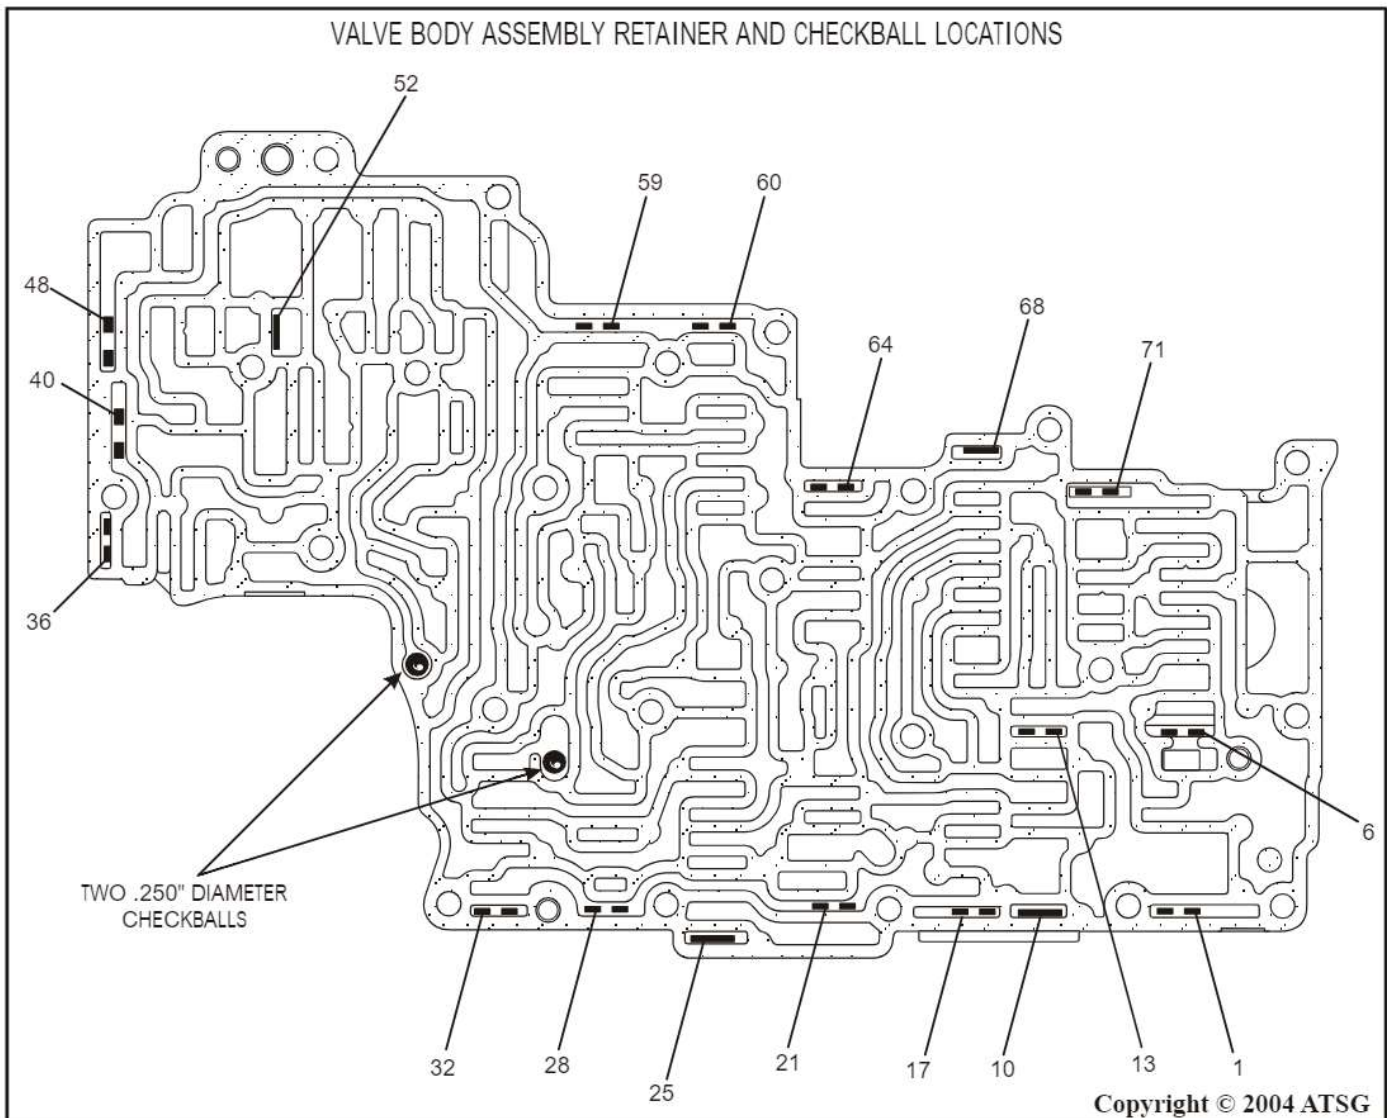

Figure 110
6. Refer to Figure 110 for the **exact** placement of retaining pins and clips, as some of them are installed inboard in the worm tracks of the valve body casting.
8. Ensure that the valve train retainers have been installed in their proper locations, as shown in Figure 110.
- Note:** The numbers in Figure 110 refer to the illustration numbers in the legend on Page 65.
10. Install the two .250" Viton checkballs into the locations shown in Figure 110 and 111.